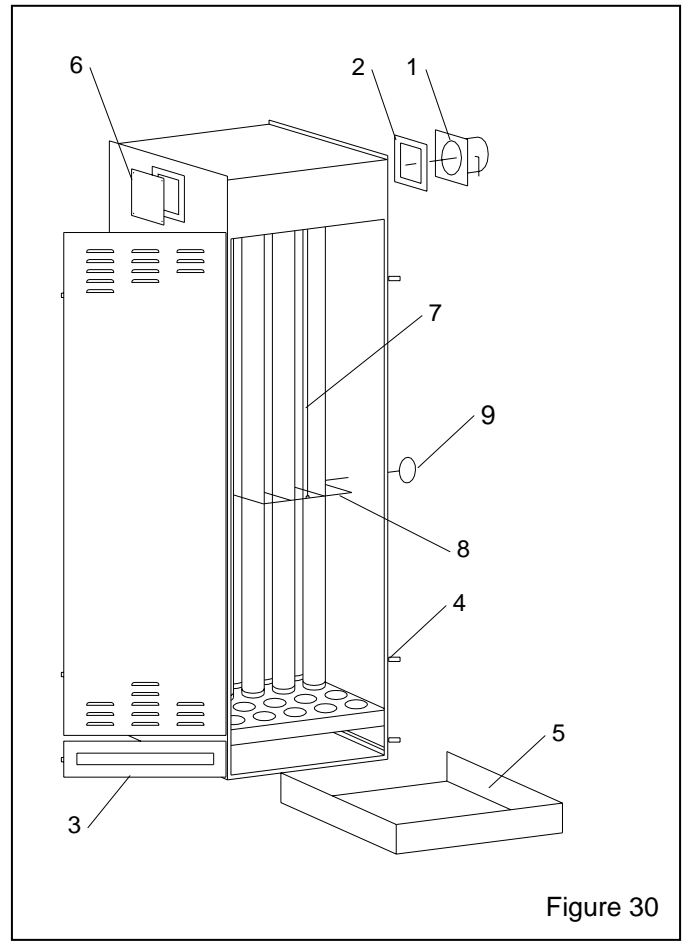

Figure 30
**9.10 Dry Filter Dust Collector, Figure 30**